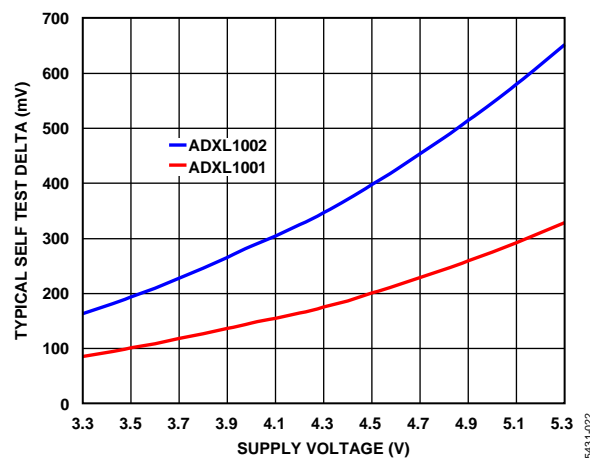

Figure 23. ADXL1002 Typical Self Test Delta vs. Supply Voltage
4. Subtract the two readings and compare the result to the expected value from Table 1, while factoring in the response curve due to supply voltage, if necessary, from Figure 23.